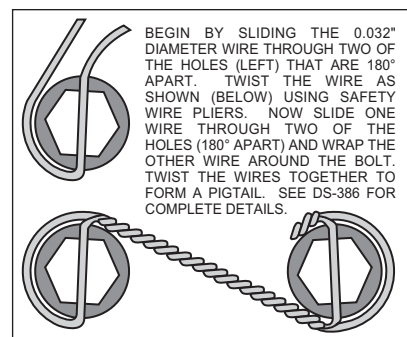

Figure 4. Safety Wire Diagram
- Attach rotor adapter (10) to rotor (11) using six bolts (12). Torque bolts (12 to 180 in-lb. Safety wire bolts (12) using standard 0.032 inch diameter stainless steel safety wire as shown in Figure 4. Please refer to Wilwood's data sheet DS-386 (available at [www.wilwood.org/ds386.pdf](http://www.wilwood.org/ds386.pdf)) for complete safety wire installation instructions. . **NOTE:** The flat side of the rotor (11) lugs face toward the rotor adapter (10) with the dished side of the rotor adapter (10) facing away from the rotor (11).
- Mount the adapter/rotor assembly (10 and 11) to the hub (7) using six bolts (13). Torque bolts (13) to 22 ft-lb. Safety wire bolts (13).
- Pack the small outer bearing cone (14) with high temperature disc brake bearing grease. Lightly coat the spindle bearing surfaces with bearing grease. Slide the hub/rotor assembly (7 and 11) with outer bearing cone (14) onto the spindle. Secure using spindle washer (15), existing adjusting nut and nut locking device. **NOTE:** Because of a tolerance variation among spindles, it may be necessary to install a shim washer (16) between the spindle washer (15) and the spindle nut if the spindle nut will not tighten down all the way. There are four supplied in the kit for your convenience.